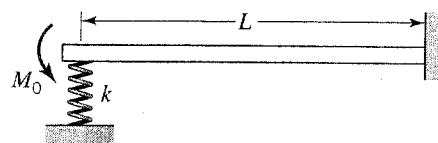

FIGURE P5.66
5.66. The beam in Figure P5.66 is fixed at the right end and rests on a coil spring with spring constant k at the left end. Assuming that the beam length is large compared to its depth, determine the force R in the spring.